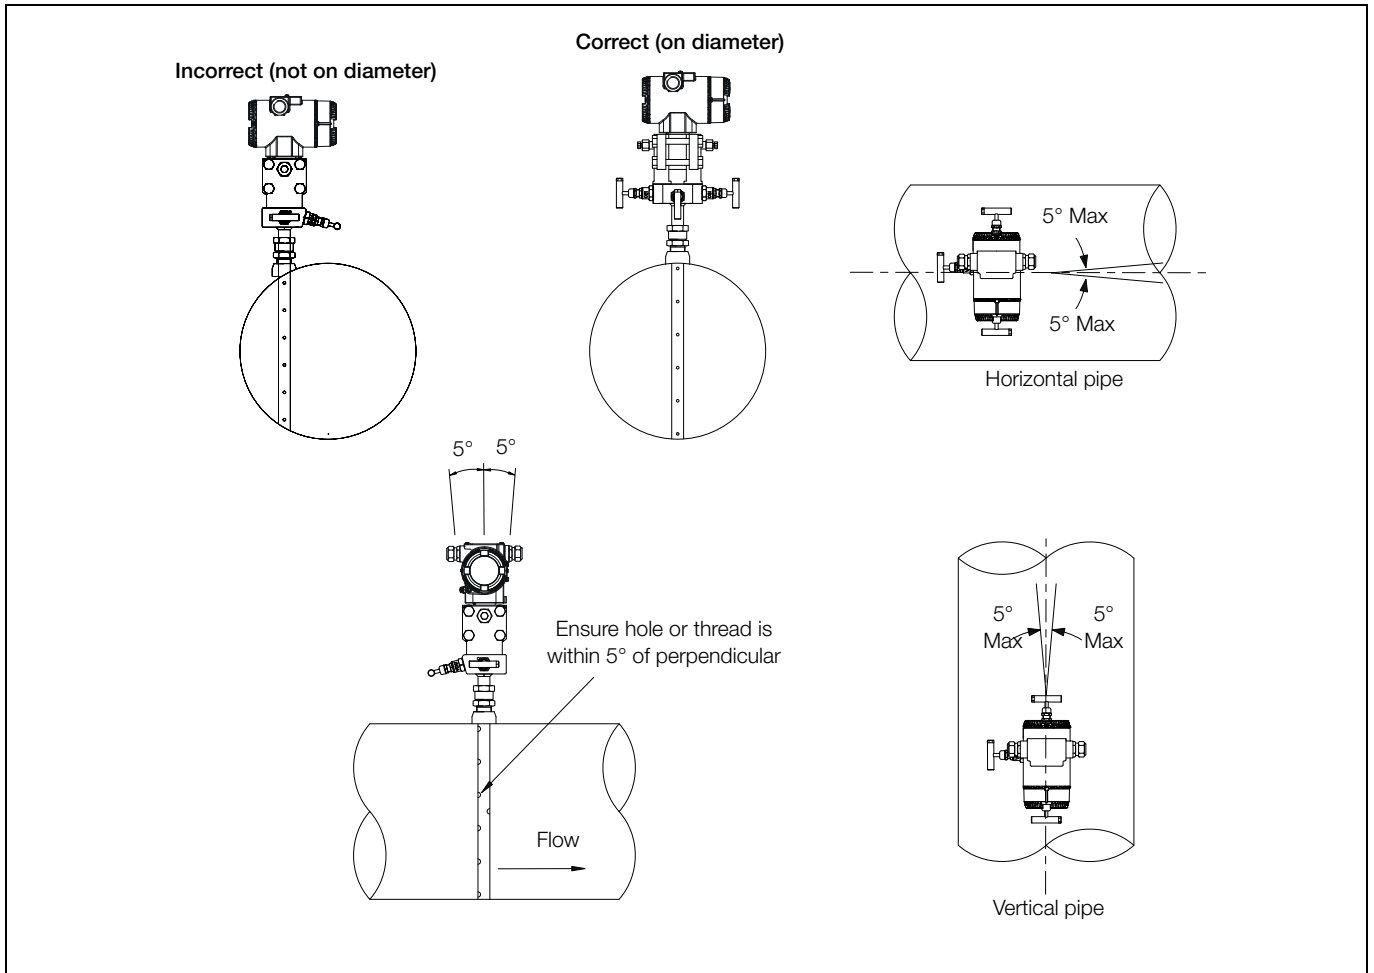
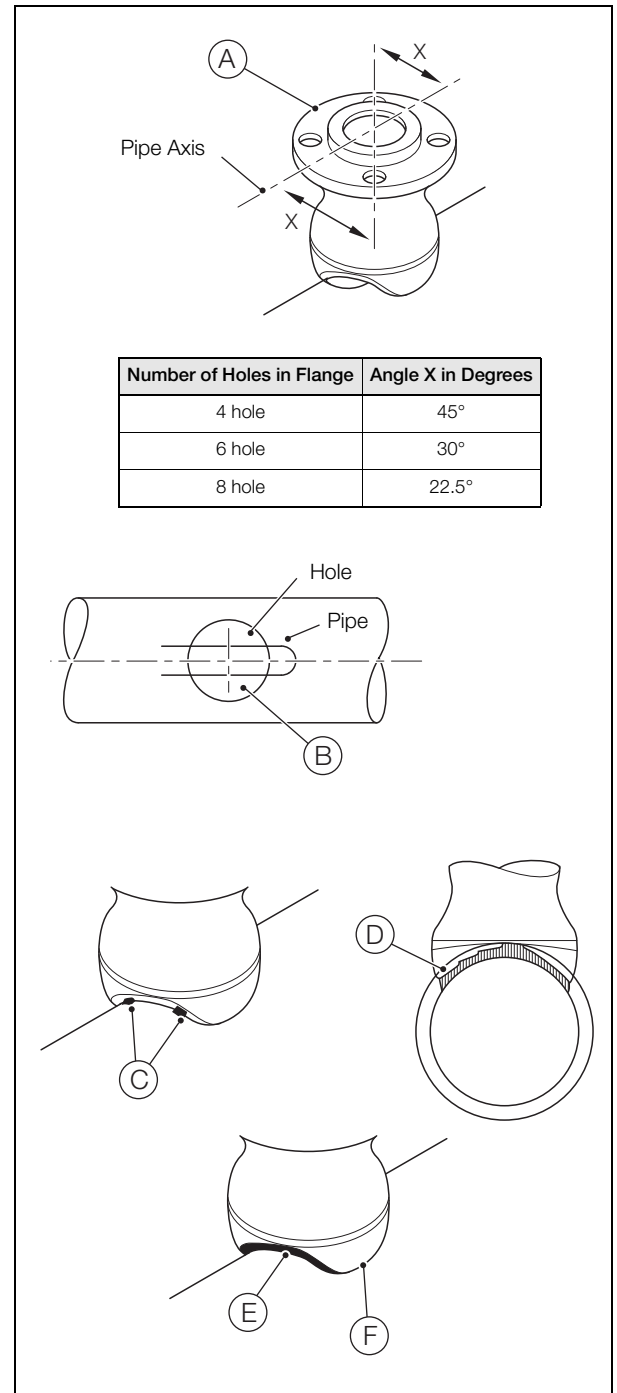

Fig. 2.8 PitoMaster Alignment
Fig. 2.14 Flanged Pipe Fitting (Stand-off) Installation
Referring to Fig. 2.8, install PitoMaster:
4. Using a suitably sized and threaded length of pipe, check the threaded fitting is concentric and aligned correctly – see Fig. 2.8, page 11.
3. Referring to Fig. 2.14:
- a. Place the flanged pipe fitting (stand-off) (A) centrally over the drilled hole and align it correctly to the axis of the pipe (angle X) according to the number of bolt holes in the flange. Ensure it is perpendicular to the pipe axis and square to the pipe plane.
- b. Use suitable spacers (B) to raise the flanged pipe fitting (stand-off) off the pipe to establish the necessary gap for full-penetration welding.
- c. Tack-weld at four points (C) midway between the crotch and the skirt sections of the fitting.
- d. Using a suitable piece of pipe, ensure the flanged pipe fitting (stand-off) is correctly aligned with the pipe (see Fig. 2.8, page 11) and concentric with the hole.
- e. Remove the spacers (B).
- f. Apply a full penetration root run completely around the base of the flanged pipe fitting (stand-off) at the clearly defined weld preparation line (D).
- g. Make reinforcing welds at the crotch bevelled areas (E) of the flanged pipe fitting (stand-off) to provide maximum weld at the crotch tapering to a minimum at the skirt (F).